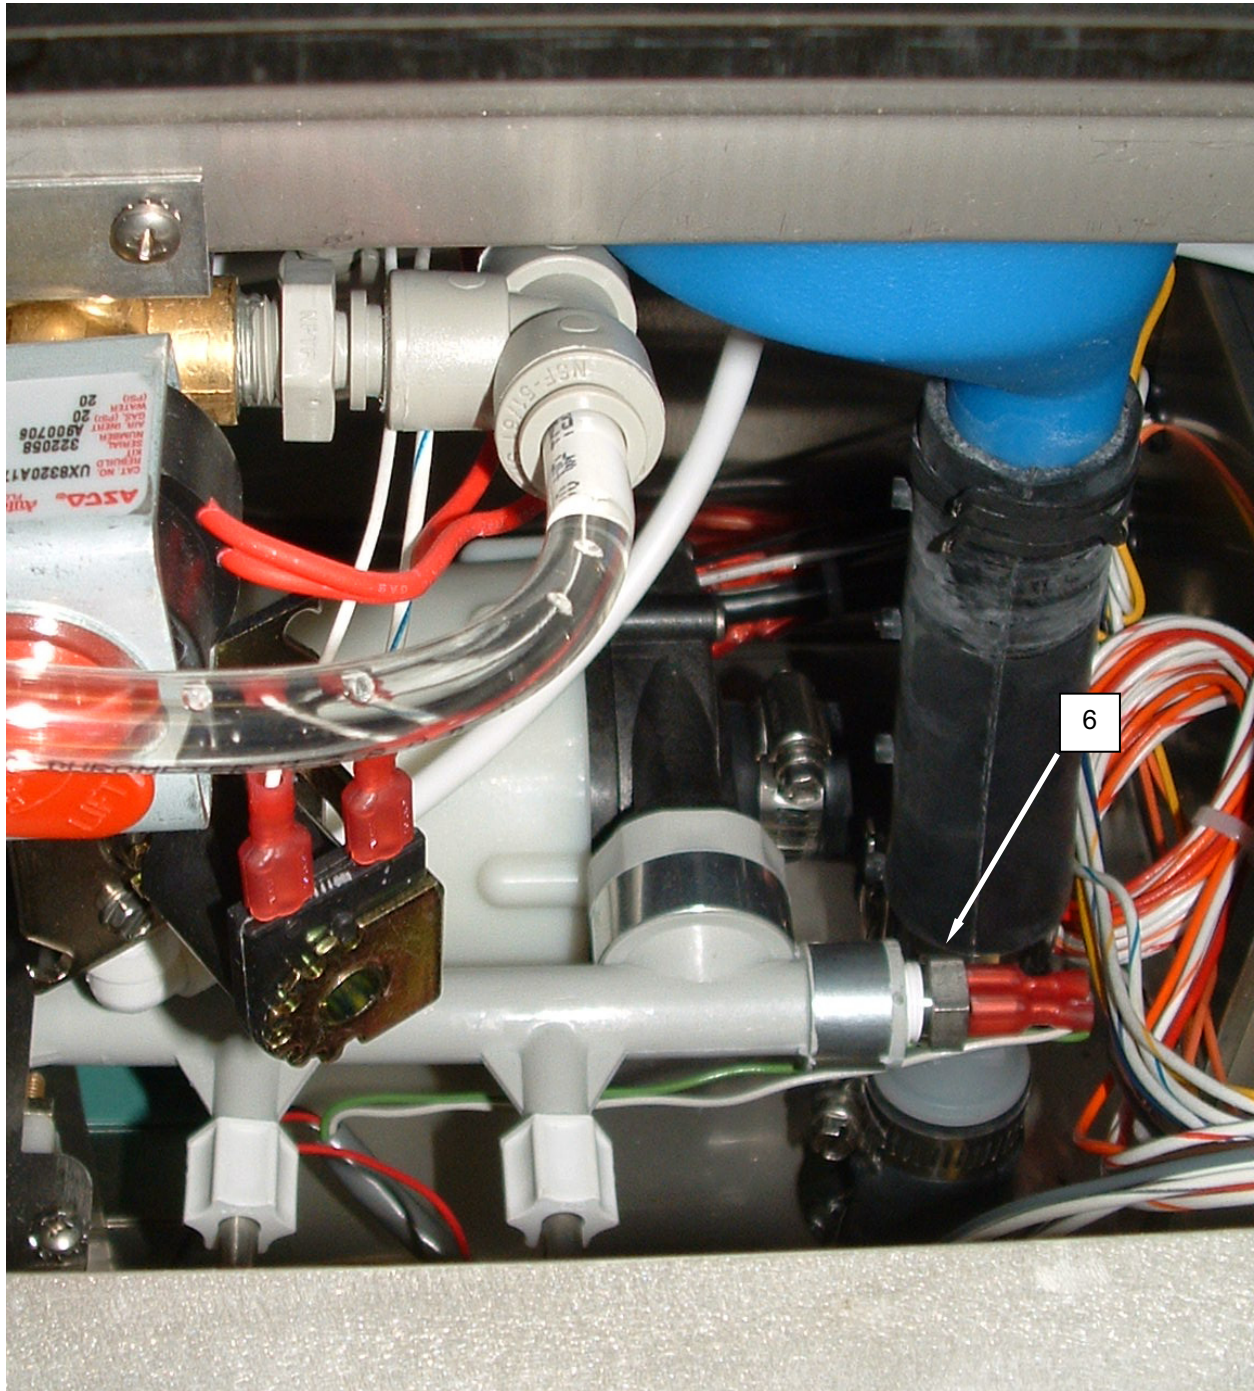

Figure 4. Replace the Thermistor.
3. Tag and disconnect wiring from the thermistor (**Figure 4, Item 6**).
4. Unscrew the thermistor (**Figure 4, Item 6**).
5. Install the replacement thermistor (**Figure 4, Item 6**).
6. Connect wiring to the replacement thermistor (**Figure 4, Item 6**) as tagged.